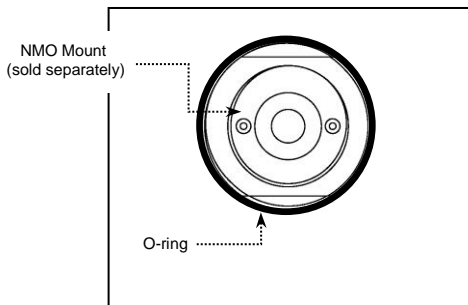

Fig. 3
- A. The EM-M20007 antenna is designed for installation to a high quality, low loss NMO mount (sold separately, see Fig. 3).
- A. Press O-ring around the base of the NMO antenna mount as shown in Figure 3.